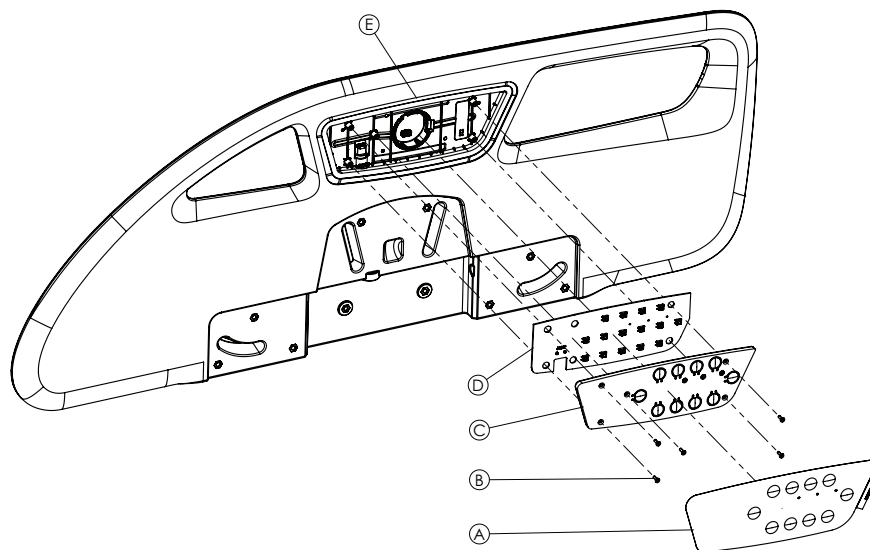
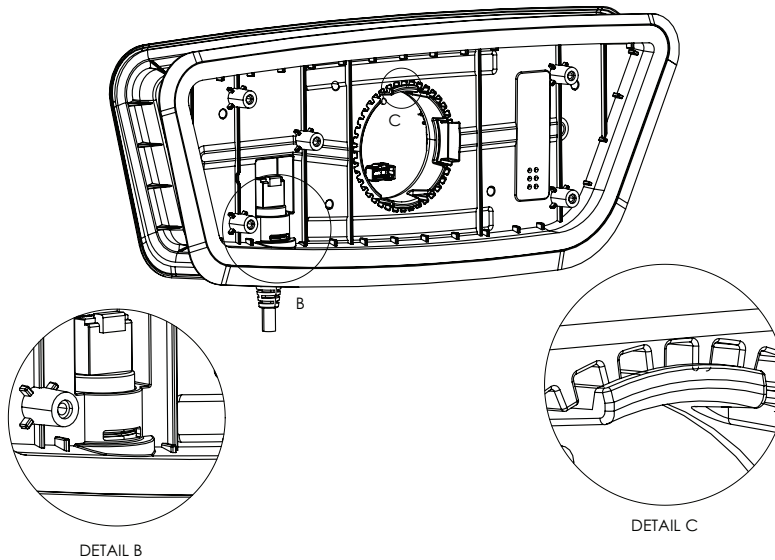

Figure 22 – Siderail control panel assembly
Figure 23 – Disconnect the PCBA cables
4. Using a slotted screwdriver, remove the foil (A) from the disassembly side (Figure 22). Discard the foil.
6. Using a slotted screwdriver, push down on the RJ50 cable (Figure 23, Detail B) to gain clearance to remove the PCBA (D) (Figure 22). Press on the top side and on the O-ring. A small pulling force on the cable is beneficial.
10. Using a slotted screwdriver, release the last two snaps (Figure 23, Detail C). Remove the side panel from the bed frame.